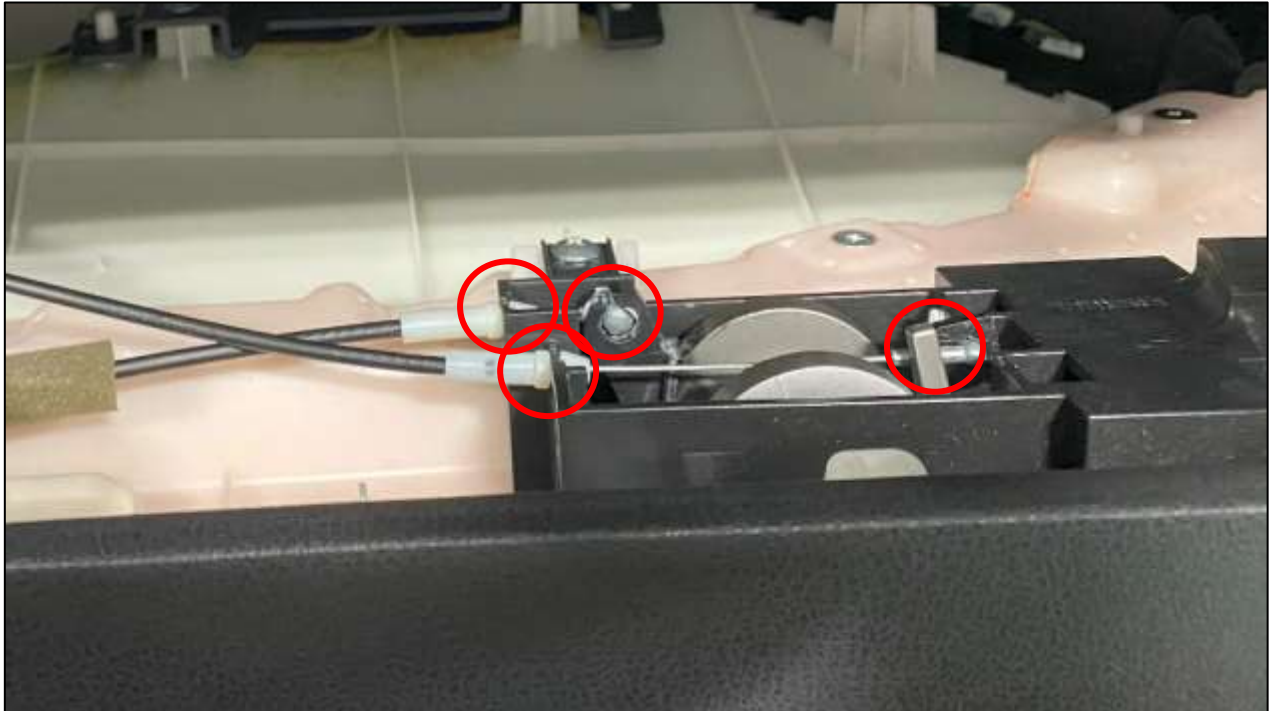

Figure 39
- Remove the Door Lock and Door Handle Cables from the Door Panel. They will easily pop out. *Figure 39.*